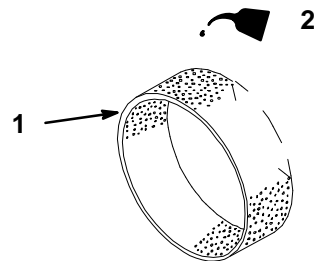

Figure 14
- C. Put one or two ounces of oil on the element (Fig. 14). Squeeze the element to distribute the oil.